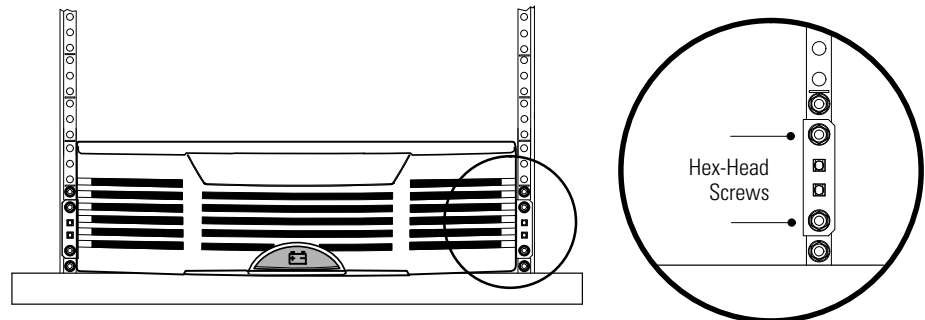

Figure 41. Securing the EBM Mounting Brackets
11. Secure the front of the EBM to the rack using two hex-head screws in each mounting bracket as shown in Figure 41.